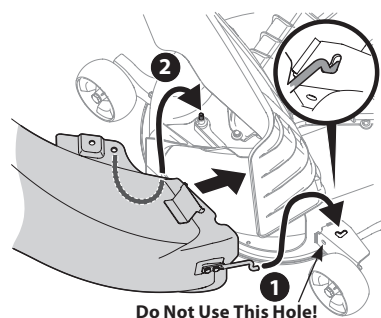

Figure 20
4. Insert the end of the boot elbow (1) into the hole provided in the deck wheel mount as shown in the inset of Figure 20.
5. Pivot the boot rearward until the hole in the boot elbow aligns with the pin on the deck adapter. Move the boot elbow down onto that pin as shown in 2 of Figure 20.